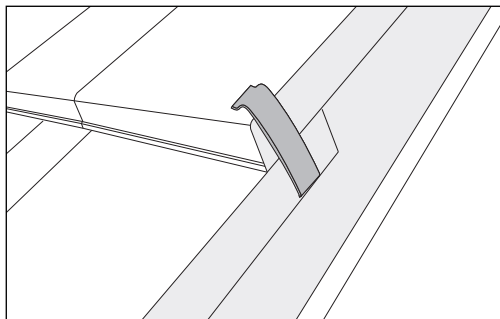

Fig 59 – Verge clip
- 2 Provide 65mm width of mortar to bed all verge tiles and fix each verge tile by clipping each tile with purpose made verge clips on both left hand and right hand verges, twice nailed to the battens with the upstand level with the edge of the undercloak. Strike all mortar bedding off flush and neatly point in one operation (Fig 59).